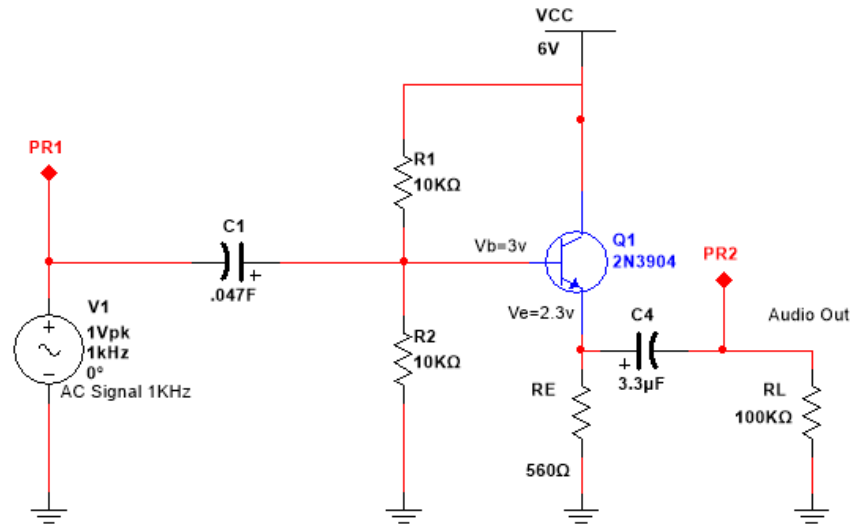

Figure 15: Typical Emitter-Follower circuit used to drive audio amplifier from AM Detector output.
1. Refer to Figure 15 & calculate the value of the emitter resistor ( $R_E$ ). We want Collector-Emitter current to be 10mA (.01 amps) and  $V_{\text{cc}} = 6\text{V}$ . The value is: